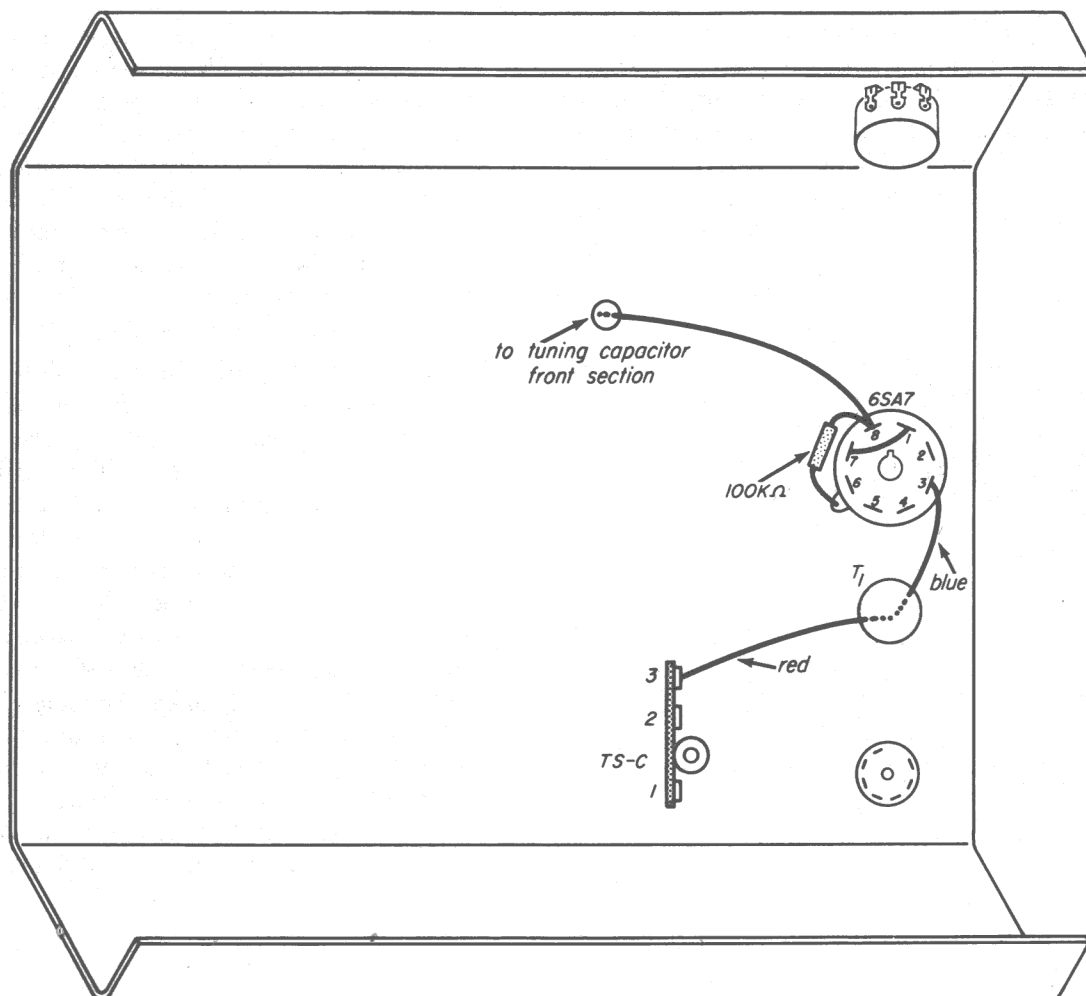

Fig. 31-2
Step 1. Disconnect the red lead of T_1 from lug 2 of TS-J, cut it to the proper length, and connect it to lug 3 of TS-C, as shown in Fig. 31-2.
Step 3. Set up the multimeter to the 500 VDC scale, and measure the various voltages called for in Table A. Turn the meter range switch cautiously to a lower range where necessary, and be sure to return it to the highest d-c range when you are finished. Compare your readings with the voltages given. If there are any voltages that differ by much more than 20 percent from the voltages given, locate the trouble before proceeding by comparing your chassis with the wiring diagrams of Figs. 31-2 and the schematic of 31-3.